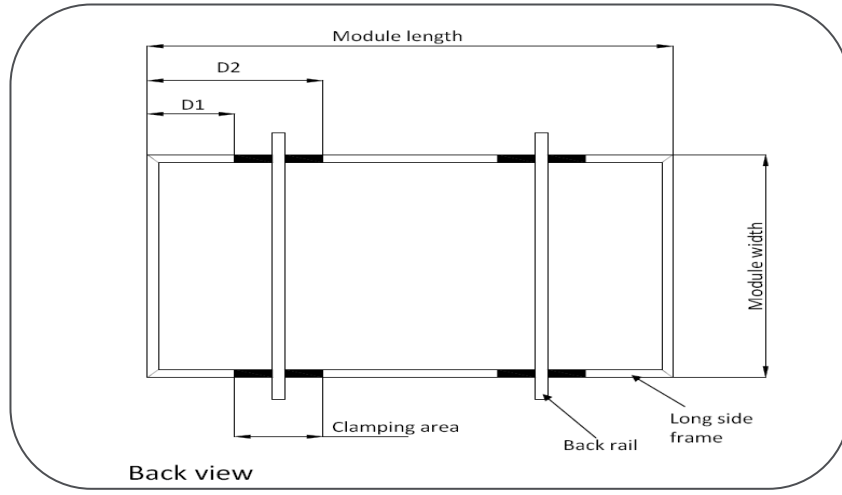

Figure 2 Long rail mounting clamp zone (D1 and D2)
- Clamp on the long side of the frame (see Figure 2, measurements below)